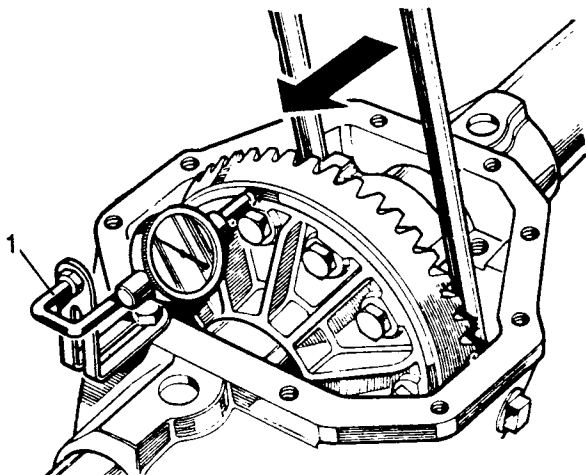

Fig J2.30
- (4) Refer to Fig J2.30. Using bracket 530106 (1) position a suitable dial gauge indicator on the casing with the stylus registering on the back face of the crownwheel.
- (5) Insert two levers between the casing and the differential unit at one side.
- (6) Move the differential unit fully to one side of the casing do not tilt the unit.
- (7) Rotate the differential unit to settle the bearings, continue to lever the differential to the side then zero the dial gauge indicator.
- (8) Lever the assembly fully to the other side of the casing, rotate the unit to settle the bearings, then note the total indicator reading.
(9) Add 0,127 mm, for bearing pre-load, to the total noted in step (8). The sum is then equal to the nominal value of shims required for the differential bearings. Shims are available in the range 0,07 mm, 0,12 mm, 0,25 mm and 0,76 mm. Select the total value of shims required.
(10) Remove the differential unit and bearings and place aside. Do not fit the shim washers until the subsequent 'Differential backlash' checks have been made.